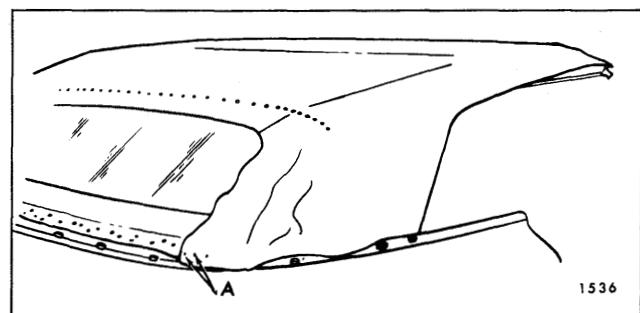

Fig. 6-26—Tacking Top Material
NOTE: The deck seam mark will vary slightly ($\pm 1/4$ ") depending upon position of rear roof bow. Also check centerline mark on inner lining of top material. Mark should correspond to centerline mark on rear roof bow. (See Fig. 6-26).
38. Using previously marked lines (ends of trim stick) as locating reference, tack top material to rear and rear quarter trim sticks. "A" in Figure 6-26 shows top material installed to rear trim stick at inboard edge.